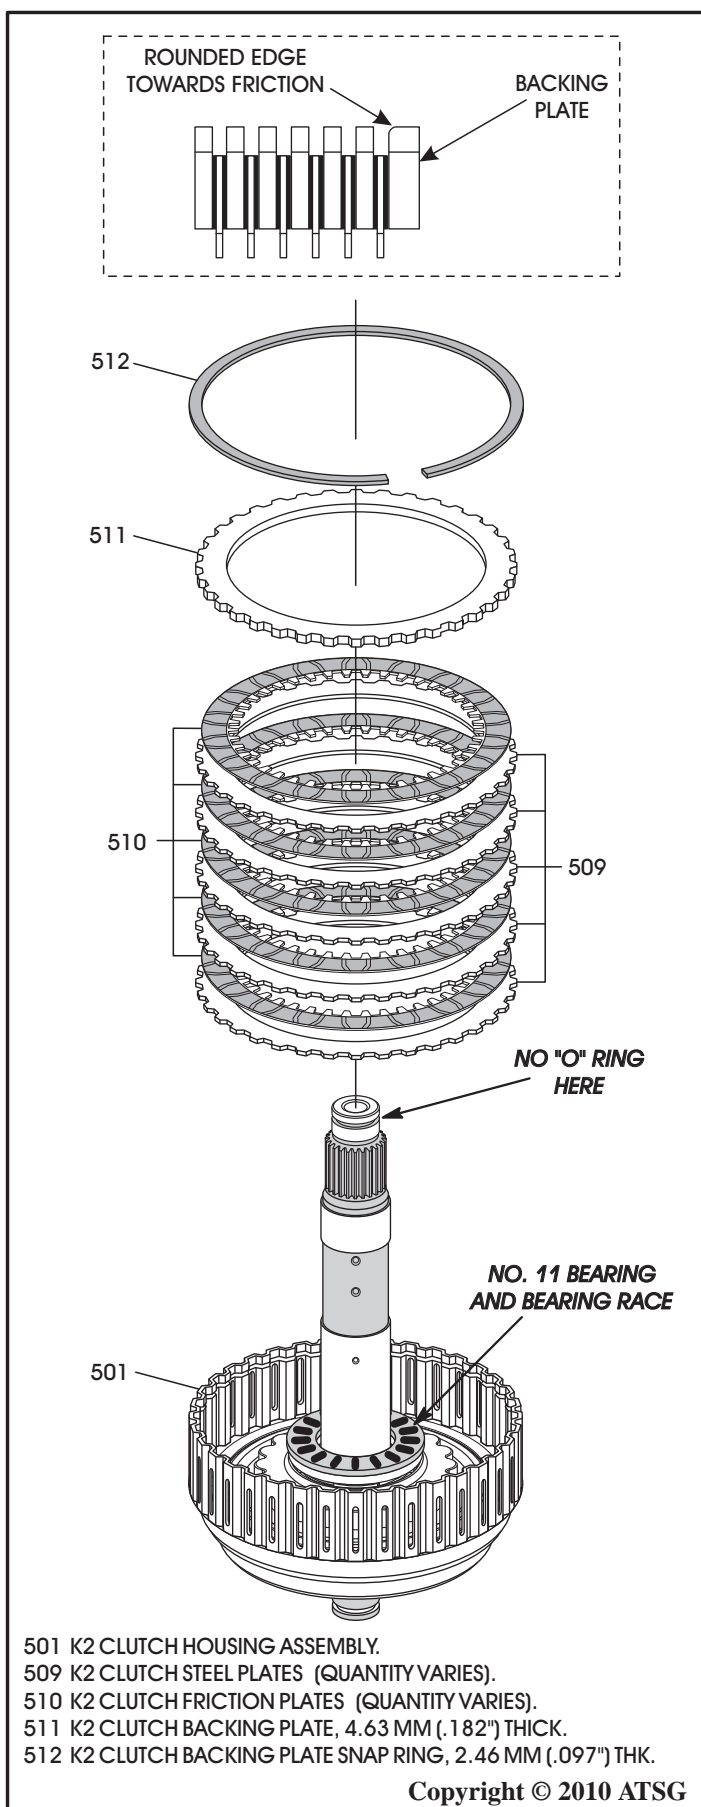

Figure 95
14. Install the K2 clutch plates beginning with a steel plate and alternating with the friction plates, as shown in Figure 95, until you have the proper amount installed as quantity may vary.
15. Install the K2 clutch backing plate, as shown in Figure 95, with the rounded edge toward the friction plate (See Figure 95).
16. Install the K2 clutch backing plate snap ring, as shown in Figure 95.
*Note: There is no "O" ring in the groove of the pilot on the K2 clutch housing shaft, as shown in Figure 95.*